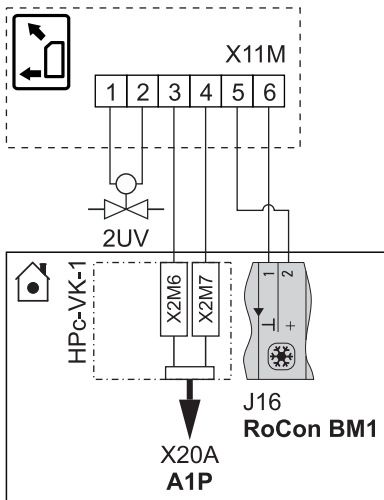

Fig. 3-32 Connecting the Daikin FWXV(15/20)AVEB to the Daikin Altherma EHS(X/H)
- Electrical connection of the Daikin FWXV(15/20)AVEB with the following accessories in accordance with fig. 3-32 as a changeover contact (heating/cooling) on the basic module.